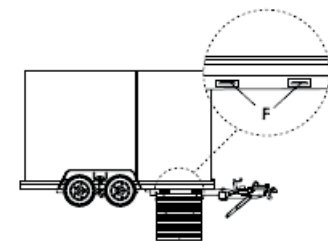

Figure 9
3. To load/unload front U-Box, remove the ramp from the rear by lifting the extended ramp up and away from retaining hooks and carry to the side of the trailer where the front U-Box door is located. Attach ramp hooks to the side mounting brackets (F) (Figure 9).